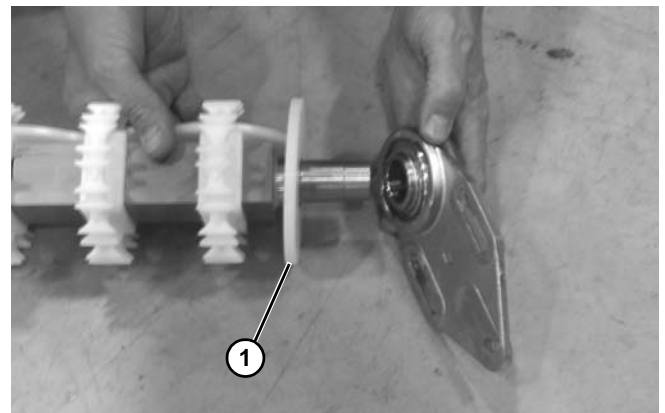

Figure 41
2. Replace guard pucks (Figure 41, item 1), as needed.